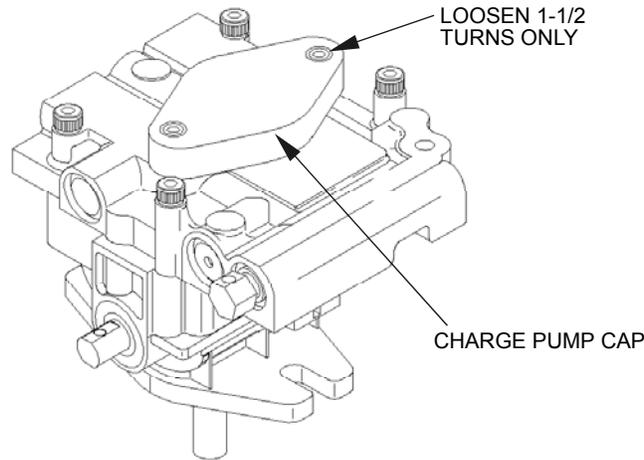

FIGURE 6
- g) If either drive wheel does not rotate, one or both of the charge pumps (located on the top of the main pump as shown in Figure 6) may have lost their “prime”. Refer to Section 5.1.11.
The critical area for purging air from the hydraulic system is between the oil reservoir and each charge pump located on the top of each variable displacement pump. See Figure 6. Air in other parts of the hydraulic system will be purged through normal operation once the charge pump is "primed".
- e) To "prime" charge pump, loosen two hex socket head capscrews (shown in Figure 6) **1-1/2 turns only**. **Make sure engine is not running**. Lift the charge pump housing upward and wait for a steady flow of oil to flow out from under the housing. Retighten the capscrews. Do this for both pumps.